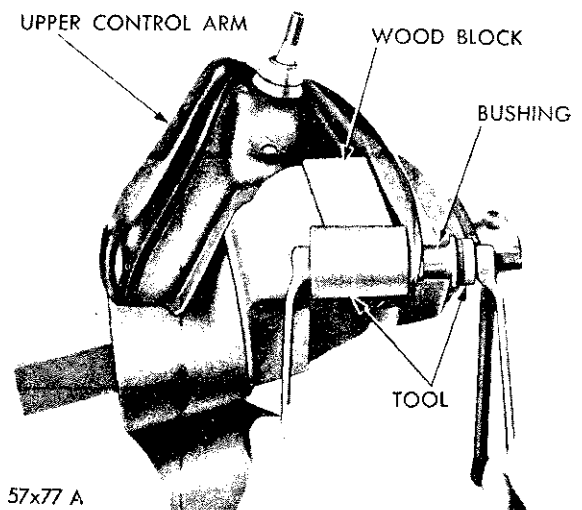

Fig. 18—Installing Upper Control Arm Bushing—Typical
(1) Position the flange end of new bushing in Tool C-3710 and then support the control arm squarely.
(2) Force the bushings into the control arm (from outside) until the tapered position of the bushing seats on the arm (Fig. 18).